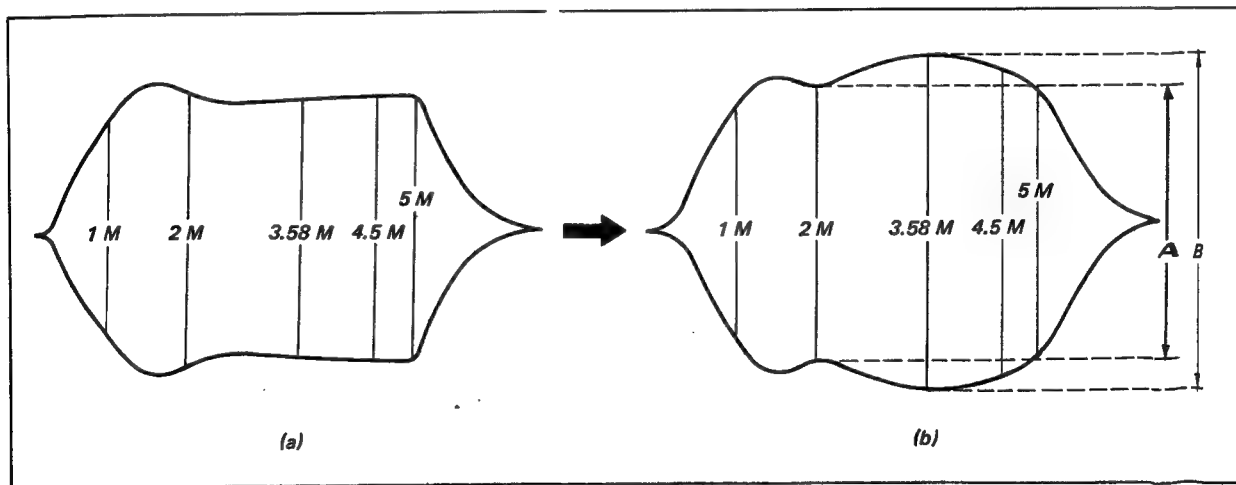

Fig. 5-5. Playback rf signal
Adjust for: Correct frequency response as shown in Fig. 5-5.
4. Adjust R201 for Ch A (R202 for Ch B) so that the amplitude at 5 MHz is equal to that at 2 MHz. See Fig. 5-5 (a).
6. Adjust R211 and R201 for Ch A (R202 for Ch B) to obtain a rf envelope approximately flat from 2 MHz up to 5 MHz. See Fig. 5-5 (a).
See Fig. 5-5 (b).